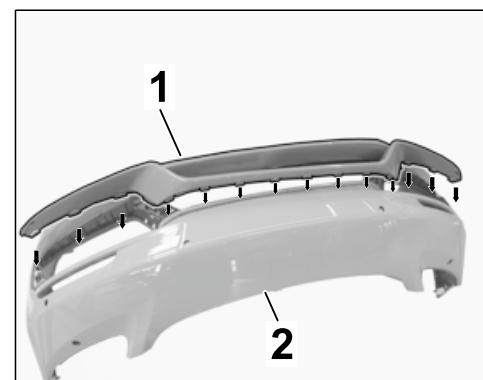

Figure 21
5.5 Clip front apron trim  $\Rightarrow$  Figure 21-1- into front apron  $\Rightarrow$  Figure 21-2- ( $\Rightarrow$  Figure 21 -arrows-).